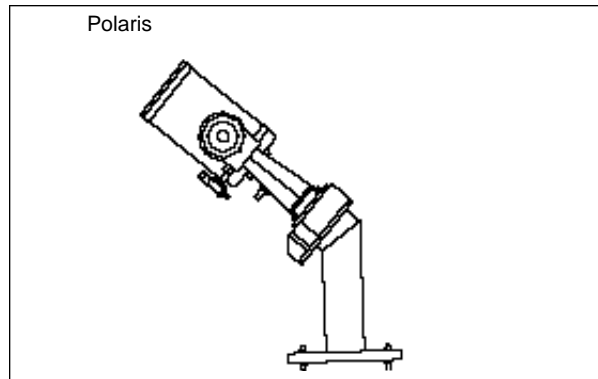

Fig. 13: Mount too low.
- If the star drifts South (or down), the telescope's polar axis is pointing too low (Fig. 13).